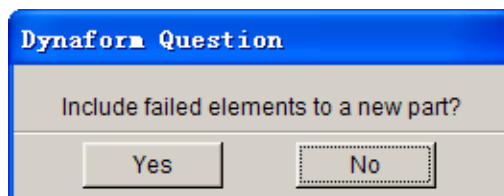

Figure 2.15: Dynaform question dialog box
4. Select **Yes** button to replace the disqualified quadrilateral elements with triangular elements. If you select **No**, the dialog box shown in Figure 2.15 is displayed. You may choose to keep the failed elements in current or new part.